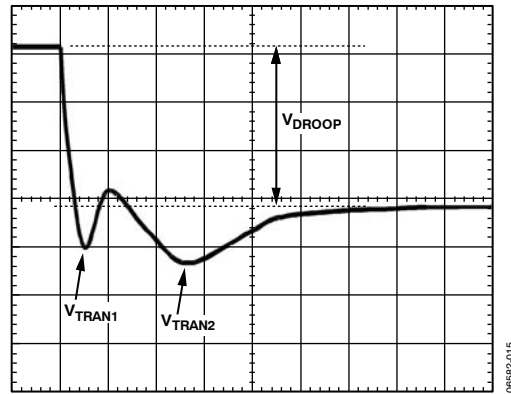

Figure 16. Transient Setting Waveform, Load Step
- Users should see a waveform that is similar to the one in Figure 16. Use the horizontal cursors to measure V_{ACDRIP} and V_{DCDRIP} as shown. Do not measure the undershoot or overshoot that occurs immediately after the step.
- With dynamic load still set at the maximum step size, expand the scope time scale to see 2 μs/div to 5 μs/div. A waveform that has two overshoots and one minor undershoot can result (see Figure 16). Here, V_{DROOP} is the final desired value.